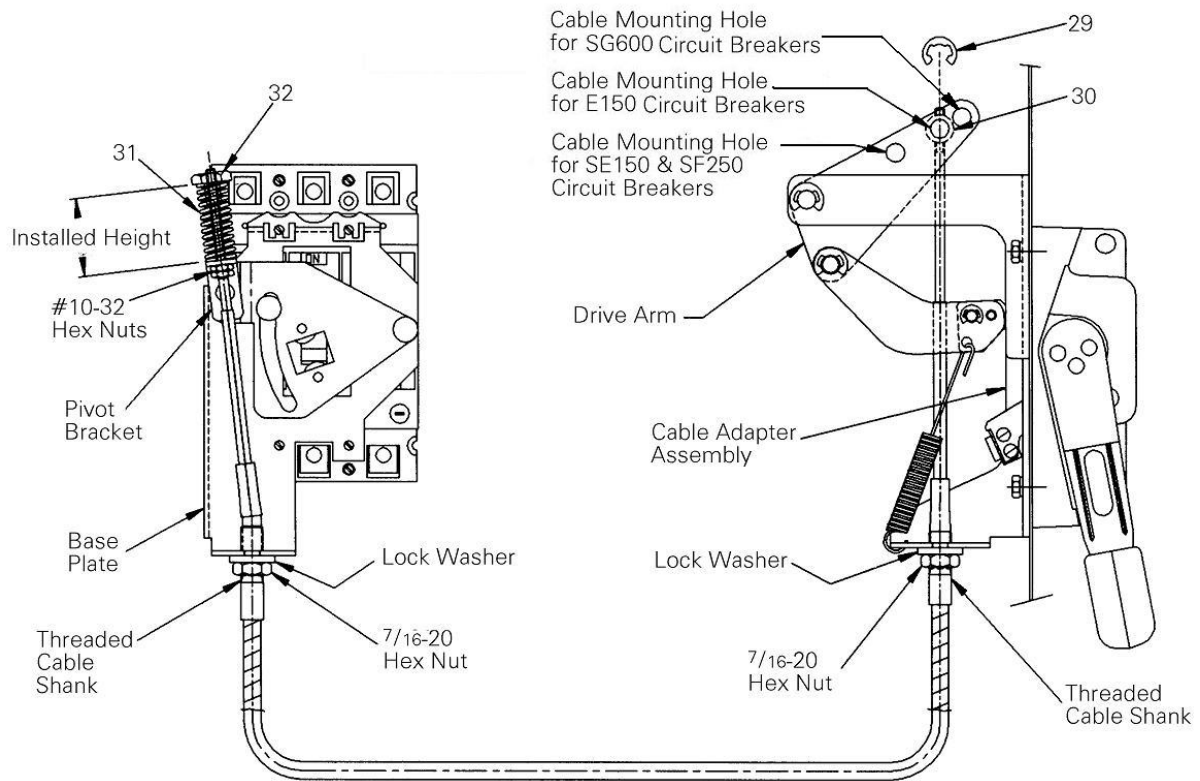

Figure 7. Cable Installation
2. Place the operating handle in the OFF position. Position the cable behind the handle drive arm linkage. Insert the groove of the cable (middle of the cable shank threads) into the slot at the bottom of the cable operator assembly. Tighten the $\frac{7}{16}$ " hex nut against the cable adapter assembly until it is snug. Insert the cable guide pin [30] into the proper mounting hole in the drive arm, as shown in Figure 7. Snap an E-ring [29] into the groove of the guide pin [30].
3. Slide a $\frac{7}{16}$ -20 hex nut over the cable end with the #10-32 $\times 3$ " thread. Install the nut onto the threaded cable shank beyond the groove at the middle of the shank. Install a $\frac{7}{16}$ " lock washer onto the hex nut. Thread two #10-32 hex nuts approximately $2\frac{3}{4}$ " onto the threaded end of the cable. Rotate the pivot bracket into position, as shown in Figure 7, and insert the end of the cable through the pivot bracket. Insert the groove of the cable into the slot on the base plate. Tighten the $\frac{7}{16}$ -20 hex nut against the base plate flange until snug. With the breaker in the OFF position, move the #10-32 hex nut up on the cable shaft against the pivot bracket. Note the position of the pivot bracket in Figure 7.